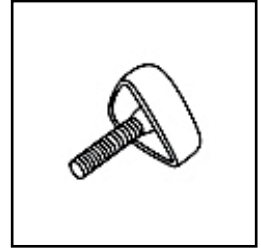

Figure 1
1. Locate the tension key, which looks like a screw with a triangular cap (Figure 1).